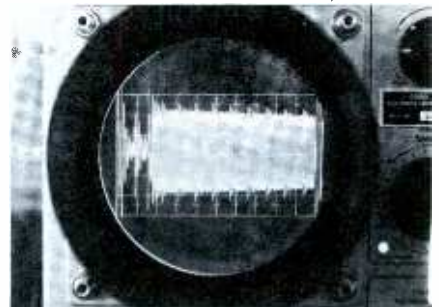

Fig. 8. Output from 1-mc high-pass filter shows differential gain of 1 db.
smallest to largest burst, is the differential gain of the system. Fig. 8 shows the output of the 1-mc high-pass filter. A tapering from left to right can be observed; the measured differential gain (AG) is 1 db.
burst generator directly to the scope used to observe the system output. Scope response must be flat to at least 5 mc, with the burst frequencies adjusted for equal amplitude. The generator is then connected to the input of the link and the scope connected to the link output (see Fig. 8); remove 1-mc high-pass filter for this test. Care must be taken to terminate the burst generator and scope properly. If a 75-ohm variable attenuator is inserted between the receiver output and the scope input, it is possible to determine the amplitude variation directly in db. This is done by noting the db change required in the attenuator to vary the